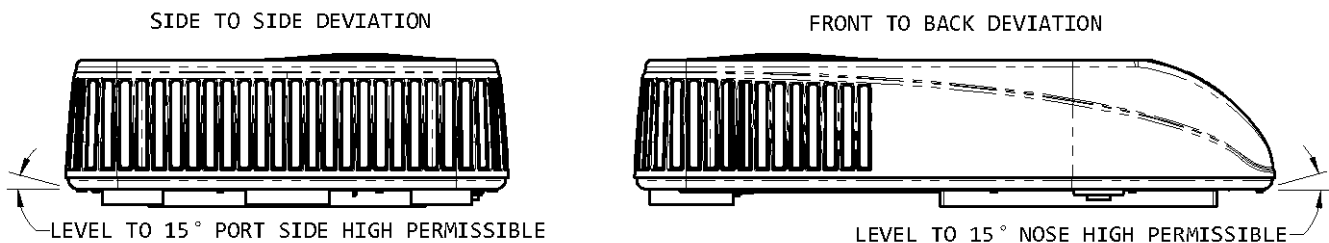

FIGURE 2
- C. The heat pump must be mounted as near level front to rear and side to side as possible when the vehicle is parked level. Figure 2 shows the maximum allowable degree deviations.